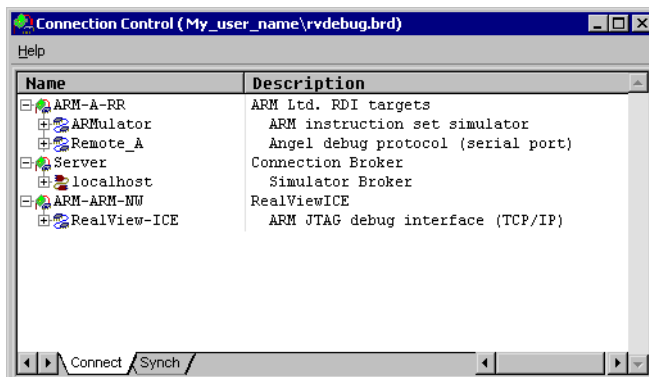

Figure 3-18 RealView ICE in the Connection Control window
1. Select **Target** → **Connect to Target...** to display the Connection Control window, shown in Figure 3-18.